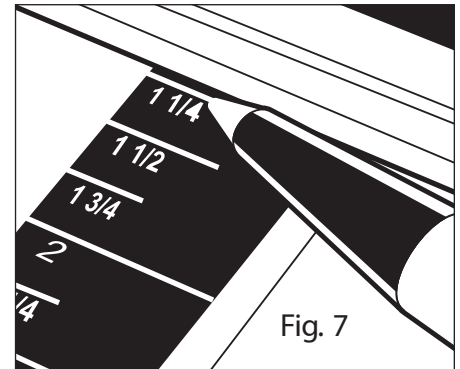

Fig. 7
1. Read dimension from visé scale (Fig. 7).